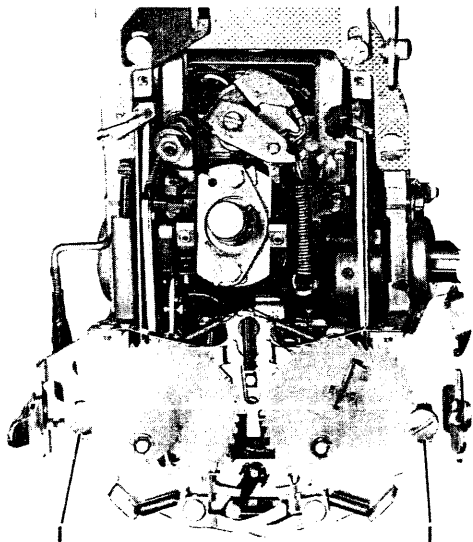

FIGURE 52. Carrier and Rocker Removal
1. Remove mounting screws (#1, Figure 52).